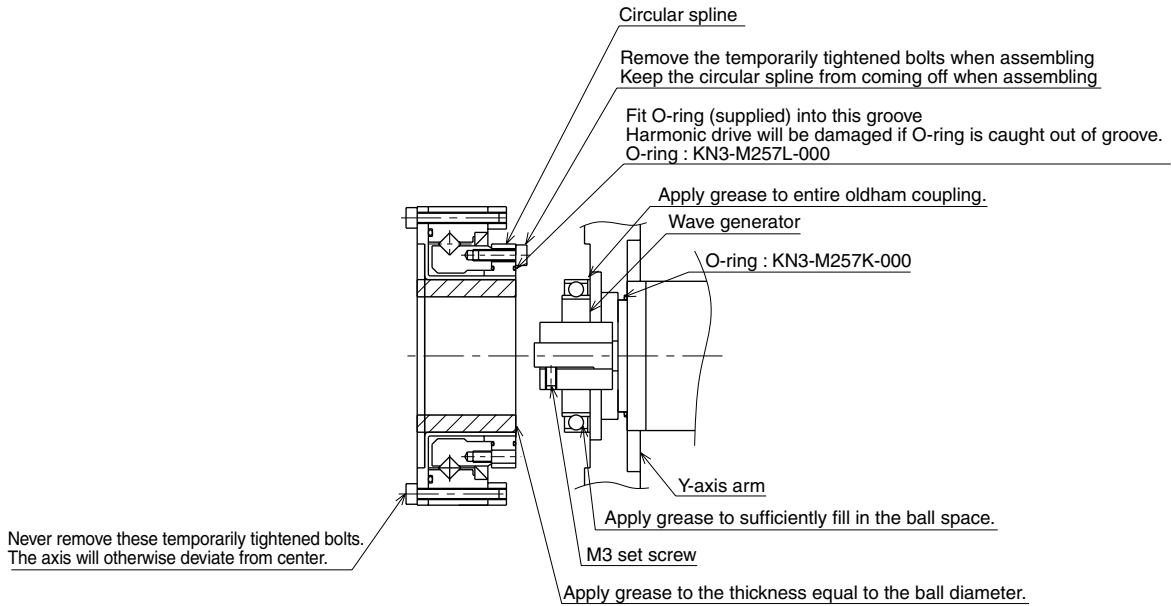

Fig. 5-10
- 8) Remove the wave generator from the motor shaft. The wave generator is secured with an M3 set screws (2 pieces). (See Fig. 5-10.)
REMOVE ONLY THE FOUR BOLTS SHOWN IN FIG. 5-10 AT THIS POINT. NEVER REMOVE THE BOLTS ON THE OPPOSITE SIDE. IF THEY ARE REMOVED, THE HARMONIC DRIVE AXIS MAY DEVIATE FROM THE CENTER CAUSING A TROUBLE.
- 15) Apply harmonic grease to the new wave generator and flexible spline. See Fig. 5-10 for applying grease properly.
- 16) Fit the wave generator onto the motor shaft and fully insert it against the motor. Then, apply small amounts of “Screw Lock” to the M3 set screw (2 piece) you removed earlier and tighten it to secure the wave generator. (See Fig. 5-10.)